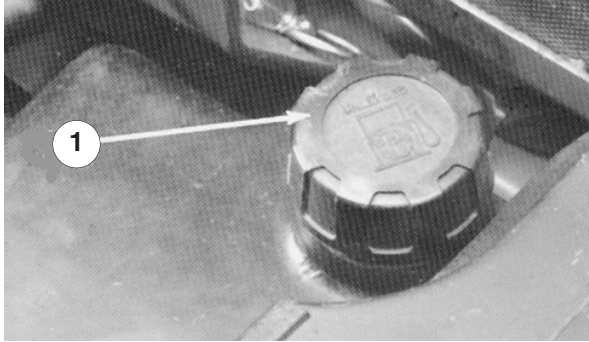

Figure 4
1. Tip the seat forward and prop it with the support rod so it cannot fall accidentally. Using a clean cloth, clean area around the fuel tank cap (Fig. 4).